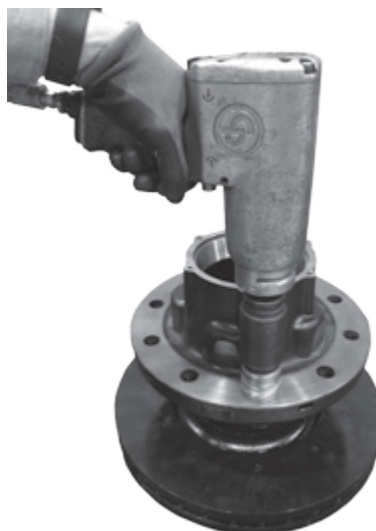

Figure 16: Stud draw-In process
5. Draw studs tight by tightening the wheel nut with a 1/2 inch drive impact wrench (Figure 16).